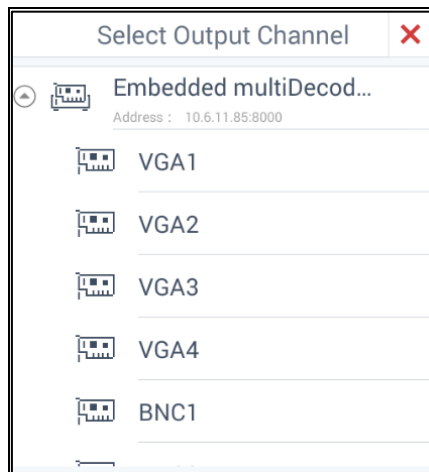

Figure 4.34 Selecting the Output Channel
1. Click the window on the video wall. A pop-up window is shown in Figure 4.34.